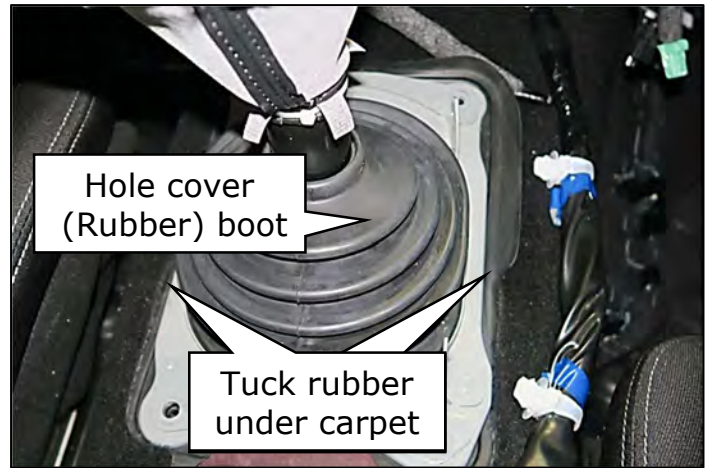

Figure 122
- Tuck the edges of the rubber boot under the carpet on the top and both sides (Figure 122)
- Install the (4) bolts and start by hand